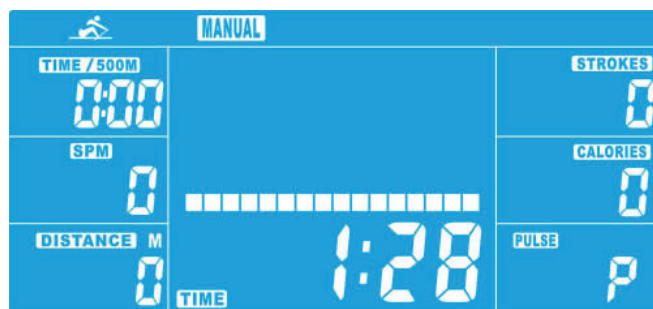

Figure 3
3. Assemble the rear cover (12) to the rear supporting bracket set (13), using four cross screws (72), four flat washers (81) and four spring washers (86) – see figure 3.
4. Assemble the sliding beam (19) to the main frame (22), using two flat washers (78), one bolt (84) and one Anti-loosen nut (55).
4. Press the START/STOP button to start your training (fig. 3).